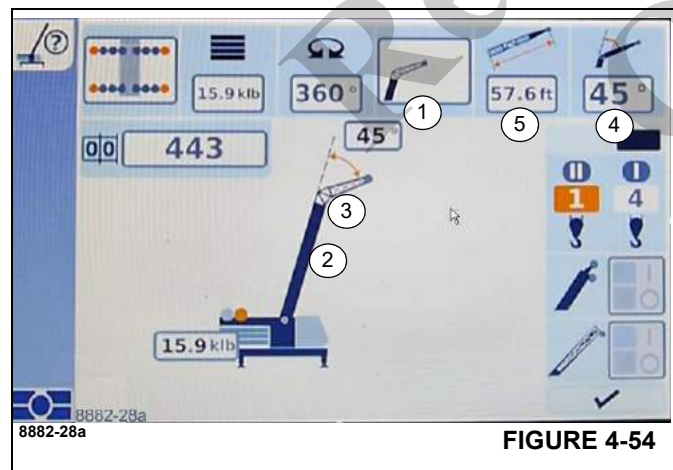

FIGURE 4-54
- Select and confirm the symbol (1), (Figure 4-54).
- Use symbol (1), (Figure 4-54) to select the rigged boom system.